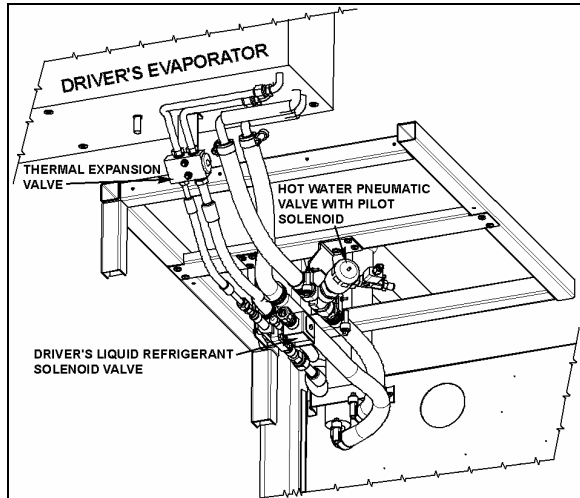

FIGURE 51: CEILING OF THE SPARE WHEEL COMPARTMENT 22181
- b) Locate the normally open hot water pneumatic valve on the ceiling of the spare wheel compartment (Fig. 51), move the pilot-solenoid valve red tab to close the valve.